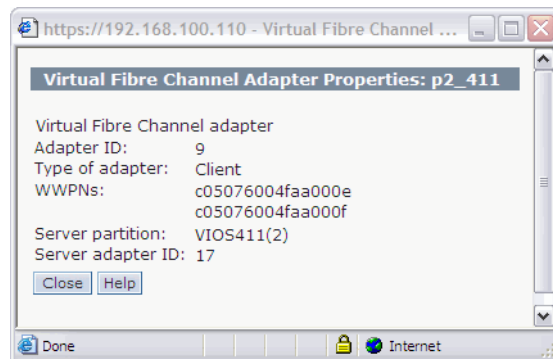

Figure 2-9 Virtual Fibre Channel Adapter Properties
3. Shut down the standalone host and remap the SAN rootvg LUN on the Fibre Channel switches from the standalone host's physical Fibre Channel adapter to the client partition virtual Fibre Channel adapter. The WWPNs will be found in the client virtual Fibre Channel adapter properties and will look similar to Figure 2-9.